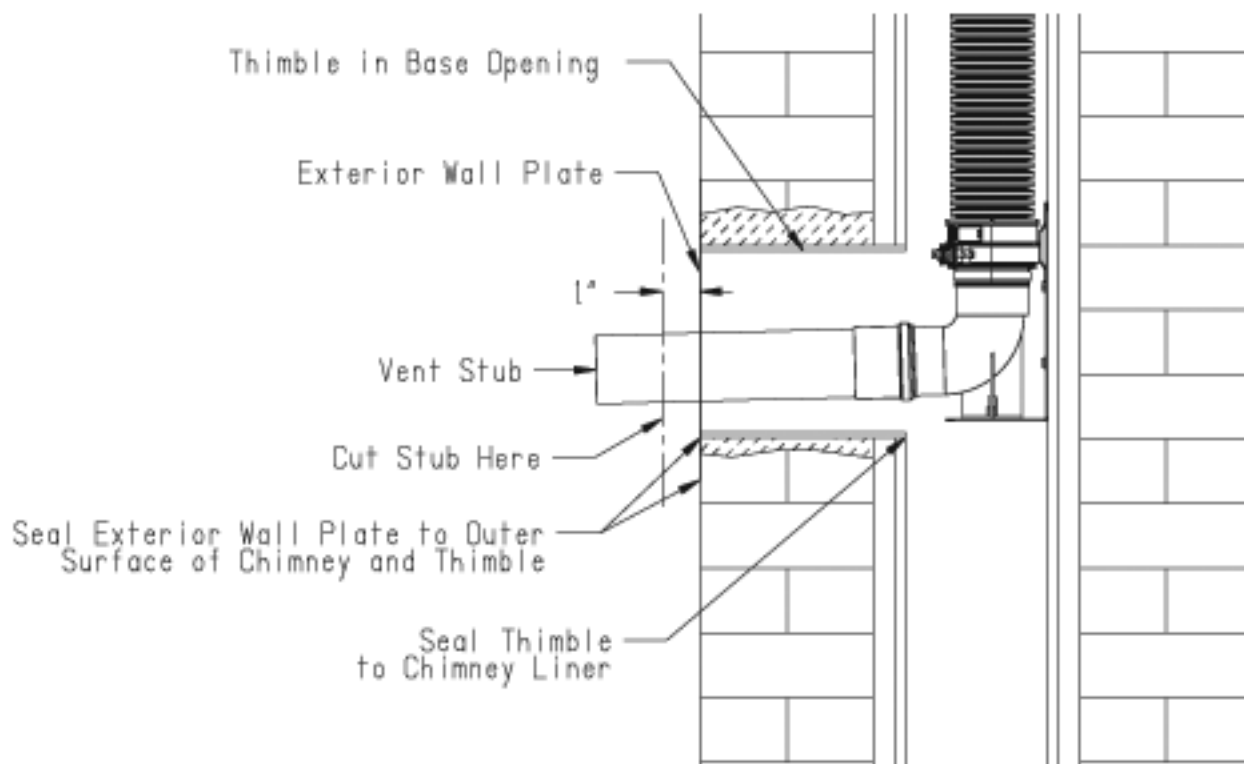

Figure 2.1: Chimney Base Detail
- 15) Provide a thimble for the penetration into the bottom of the chimney chase. This can be a section of smoke pipe, duct or ceramic chimney tile. It must be installed so that the following requirements are met (Figure 2.1):
- 19) Mark the Vent stub at a point 1" beyond where it exits the Exterior Wall Plate (Figure 2.1). Cut the Vent Stub squarely at this point with a fine tooth hacksaw or PVC saw. De-burr the cut end with a file, razor blade, or fine sandpaper.